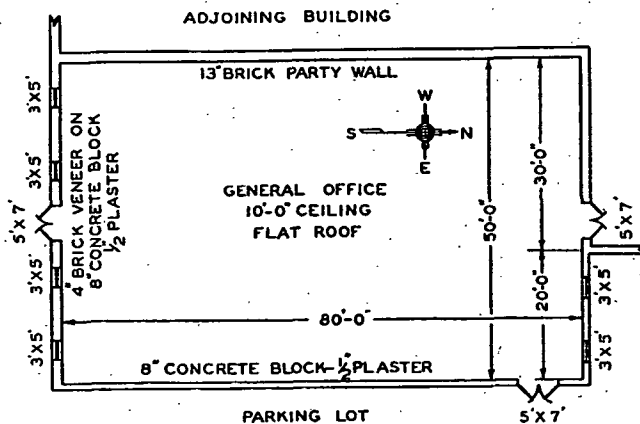

FIG. 6. PLAN OF ONE-STORY OFFICE BUILDING
**Example 18:** A one-story office building Fig. 6 is located in an eastern state near 40 deg latitude. The adjoining buildings on the north and west are not conditioned, and the air temperature within them is known to be substantially equal to the outdoor air temperature at any time of the day.